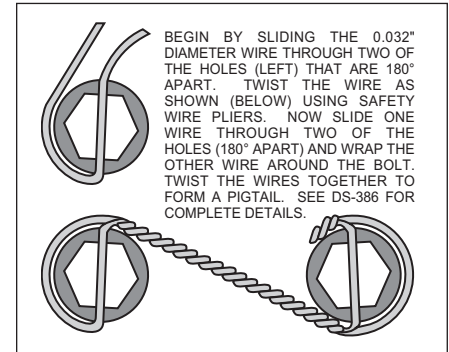
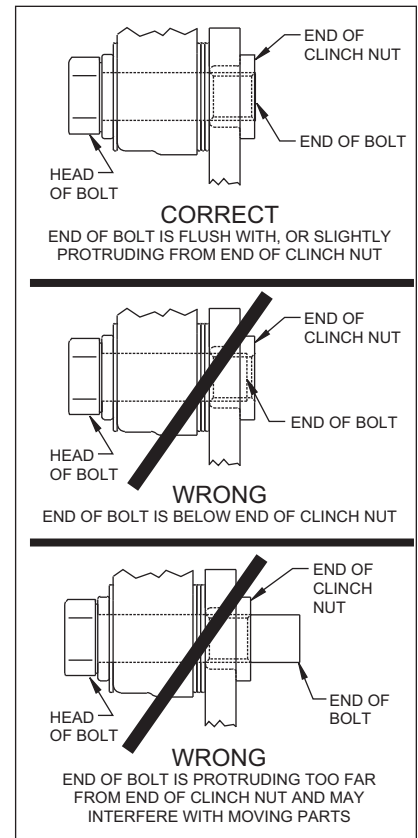

Figure 4. Safety Wire Diagram
Figure 5.
•With the slot pointing upward and the mounting ears pointing towards the rear of the vehicle, install the caliper mounting bracket (1) to the housing flange using the stock Original Equipment Manufacturer (OEM) bolts and nuts. Stock OEM hex nuts that retain the bracket (1) should be on the wheel side of the bracket. Apply red *Loctite*® 271 to the stock OEM bolt threads and torque to OEM specifications. **NOTE:** Some brackets act as the bearing retainers, while others help locate the bearing in the axle housing flange. If the stock bearing plates are still on the axle, the caliper mounting brackets (1) should be located between the axle housing flange and the bearing retainer plate. Make sure the heads of the caliper mounting bracket insert nuts are FACING OUTWARD TOWARDS THE WHEEL.
•The rotor (3) has two sides. A flat side and an inset side. Bolt hat (2) to flat side of rotor (3) by sliding one of the T-nut's (4) into the "T" slot on the hat and attaching the rotor using a lock washer (5) and bolt (6) through the mounting holes in the rotor (3) into the corresponding hole in the T-nut (4). Finger tighten only at this time. Repeat this procedure for the remaining T-nut's, lock washers and bolts. Insert the T-nut tool (supplied in the bolt kit) into the slot between the T-nut (4) and hat (2) up to the flat spot on the T-nut tool shaft. Torque bolt (6) to 198 **in-lb**. Remove T-nut tool and insert into T-nut slot on opposite side of hat and torque bolt (6) to 198 **in-lb**. Repeat until all T-nuts (4) have been tightened and torqued to proper specification. **NOTE:** Reference Wilwood data sheet DS-440 (supplied with this document) for additional information if necessary. Safety wire bolts (6) using standard 0.032 inch diameter stainless steel safety wire as shown in Figure 4. Please refer to Wilwood's data sheet DS-386 (available at www.wilwood.com/Pdf/DataSheets/ds386.pdf) for complete safety wire installation instructions.
•Align the correct hole pattern in the hat (2) with the stud pattern on the axle flange. **NOTE:** Some OEM and after market axles come with stud sizes larger than 0.50" diameter. Verify stud size and have a qualified machine shop drill the hats to the correct size. Slide the hat/rotor assembly (2 and 3) over the wheel studs and against the axle flange face.
•**NOTE:** Please reference the caution statement at the beginning of the assembly instructions. WITH THE BLEED SCREWS POINTING UP, mount the caliper (7) over the rotor (3) and onto the caliper mounting bracket (1) using washers (8) and mounting bolts (9). View the rotor through the top opening of the caliper. The rotor should be aligned in the center of the caliper. If not, adjust the caliper by using 0.032 inch shims (10) by placing them between the caliper mounting bracket (1) and the caliper (7). Add as many shim washers (10) as necessary to achieve the correct alignment. **NOTE:** The end of the bolt must be flush with or slightly protruding from the head of the clinch nut. See Figure 5. Place spare shims (10) between washer and caliper mounting ear to achieve the proper mounting fastener configuration. Always use the same amount of shims on both the top and bottom caliper mounting bolts (9). Apply red *Loctite*® 271 to the mounting bolt threads (9), torque to 30 ft-lb. Safety wire the caliper mounting bolts (9).
•Position the Wilwood disc brake pads (11) into the caliper (7) and fasten with cotter pin (12). Steel backing plate side of brake pad should face the caliper pistons.